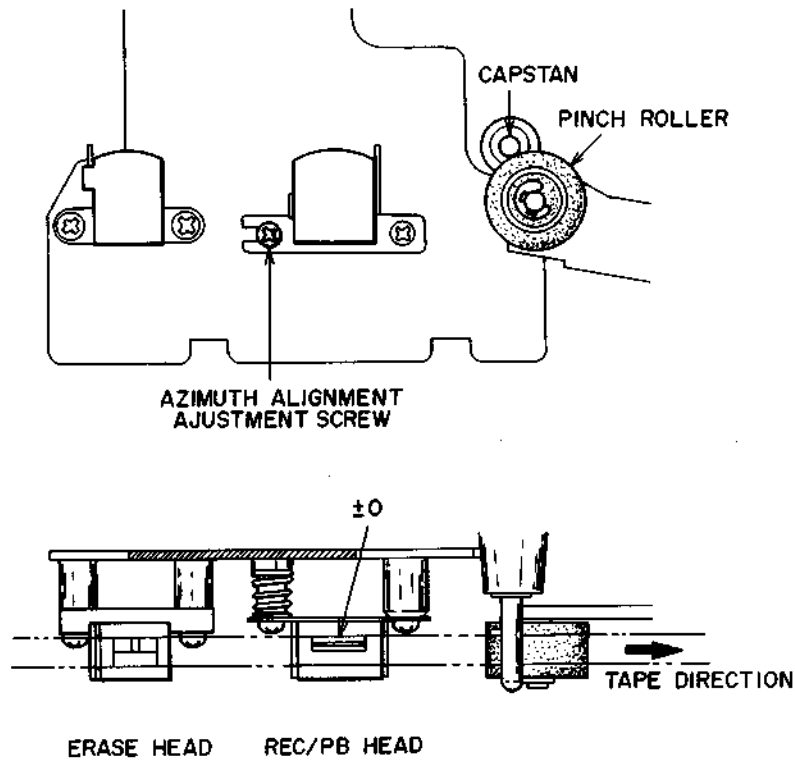

Fig. 9
#### AZIMUTH ALIGNMENT (Refer to Fig. 9)
- a) Playback a 10 kHz pre-recorded cassette azimuth alignment test tape and adjust screw shown in Fig. 9 to obtain maximum output on both channels.